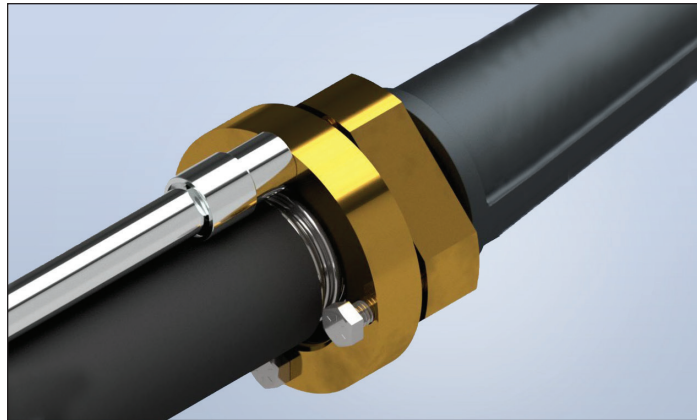

Figure: 1-8
9. Tighten all Hex Bolts in an alternating pattern to the torque value listed in Table 1 (Figure 1-8). Note that the **TracPipe** System fitting is designed to form a leak tight seal on the stainless-steel tubing as the fitting is tightened. **DO NOT overtighten bolts.** When fully tightened, there should be a small and uniform gap around the circumference of the fitting between the Front Pipe Flange and the Back Flange.